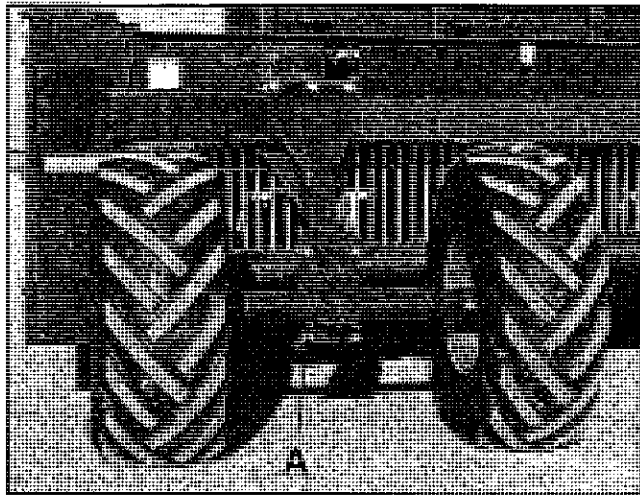
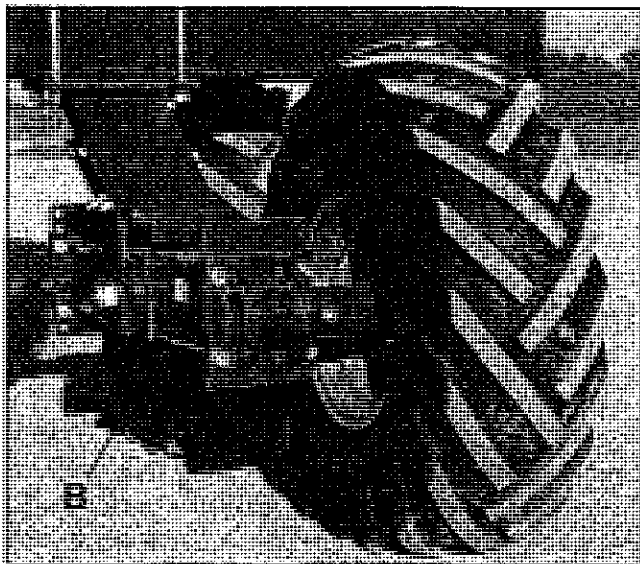

Figure 2.03: Oscillation Carrier Wheels. (A) - Support Bracket.
Figure 2.04: Walking Beam Carrier Wheels. (A) - Support Bracket.
To level machine on left side, move spindle support bracket (A) (see Figure 2.03) up or down on oscillating struts. To level machine on right side, move spindle support (B) (see Figure 2.04) up or down to raise or lower machine as required.